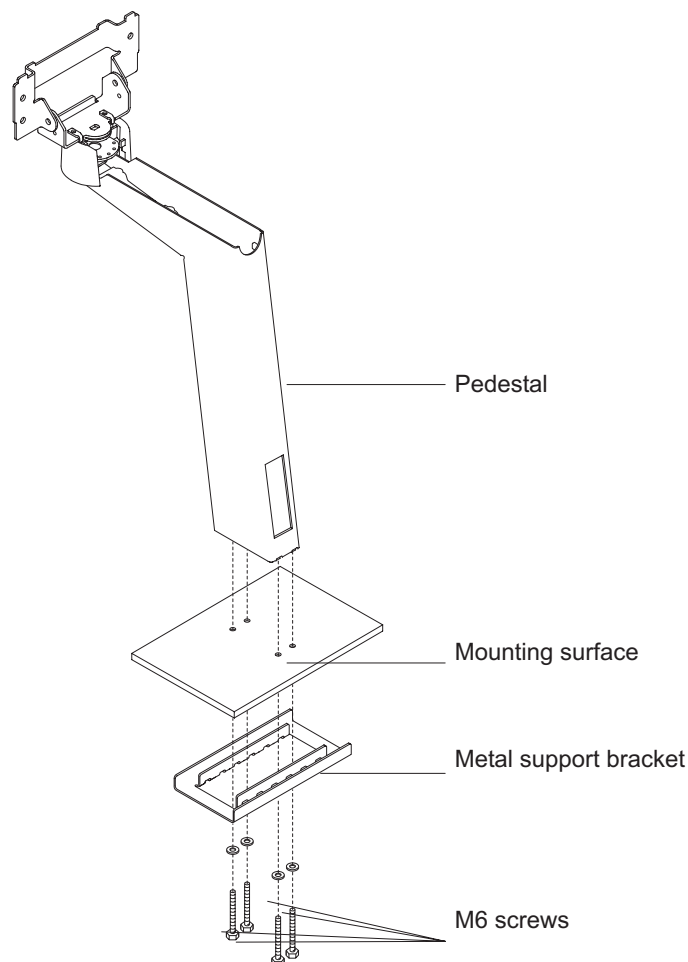

Figure 2-12. Mounting the distributed pedestal
The distributed pedestal is available in short (238.2 mm/9.38 inches) and tall (350.6 mm/13.80 inches) versions. Both pedestals bolt to your counter; therefore, installation is the same. Figure 2-12 shows the mounting order for the tall pedestal.
3. Use the enclosed M6 screws to secure the pedestal to the counter as shown in Figure 2-12 on page 2-8. The slots located in the metal support bracket allow you to position the pedestal for maximum stability.